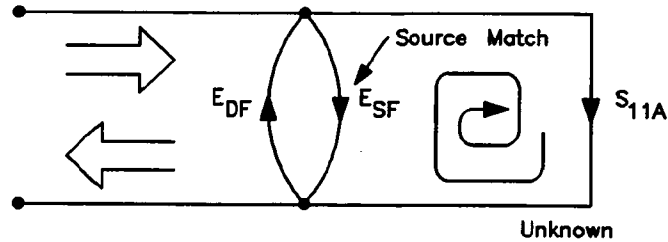

Figure B-4
Since the measurement system test port is never exactly the characteristic impedance (50 ohms), some of the reflected signal bounces off the test port, or other impedance transitions further down the line, and back to the unknown, adding to the original incident signal (I). This effect causes the magnitude and phase of the incident signal to vary as a function of  $S_{11A}$  and frequency. Leveling the source to produce constant (I) reduces this error, but since the source cannot be exactly leveled at the test device input, leveling cannot eliminate all power variations. This re-reflection effect and the resultant incident power variation are caused by the source match error,  $E_{SF}$  (Figure B-4).